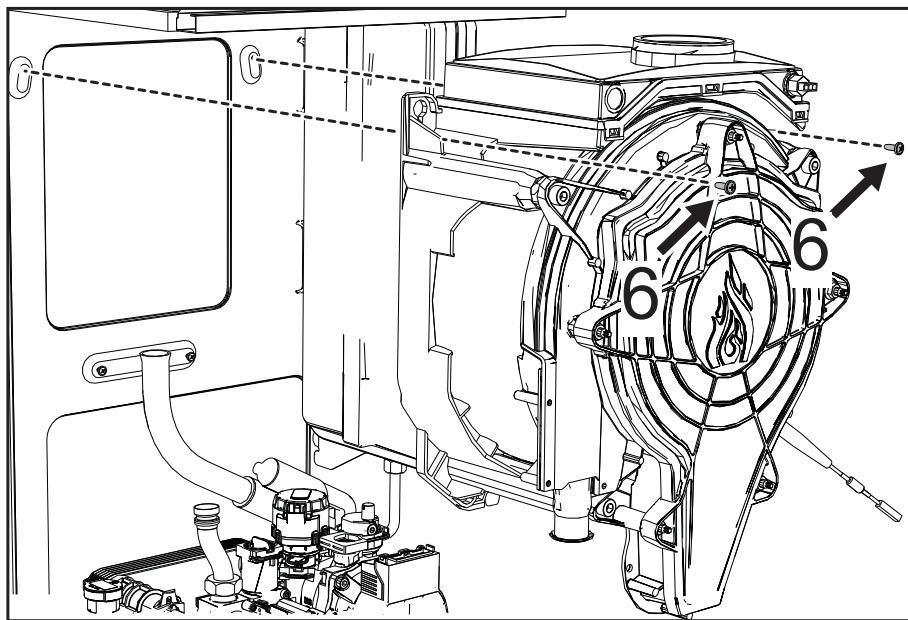

fig. 65
- Remove the **2 top screws "6"** securing the exchanger to the frame (fig. 65).